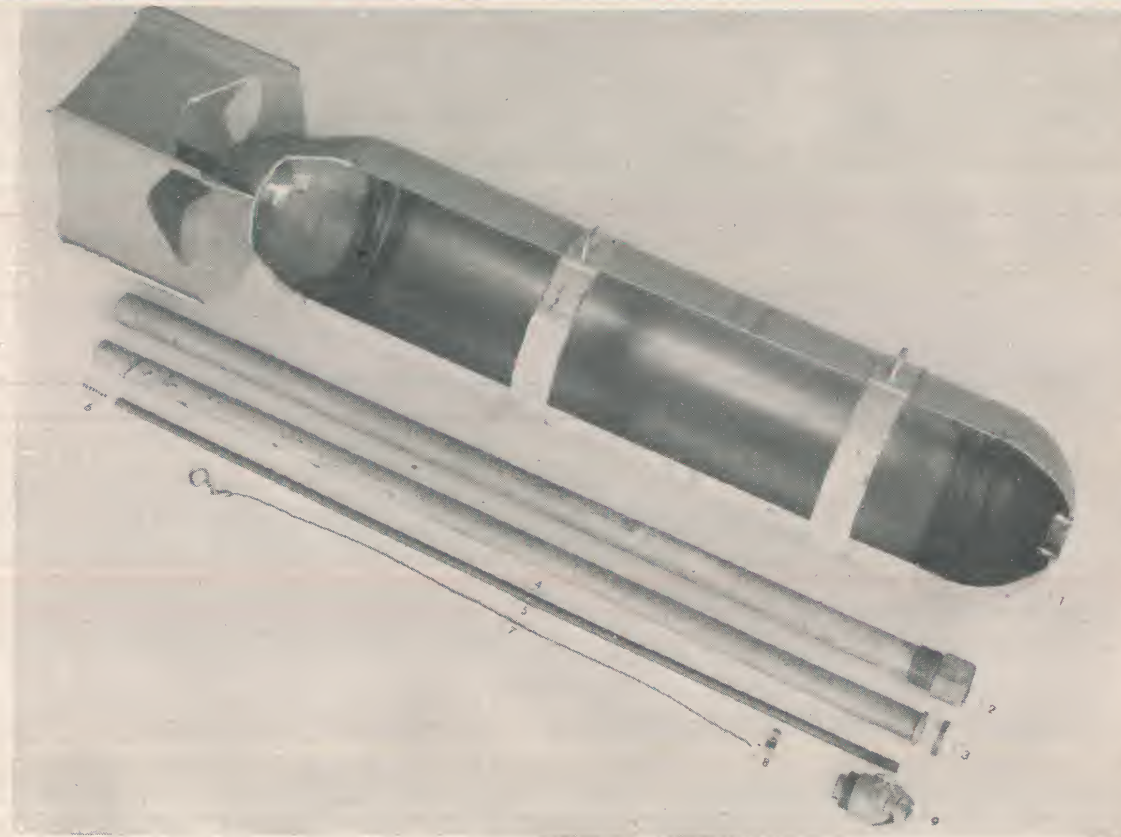

FIGURE 1.—Components of 100-pound Incendiary Bomb AN-M47A2 (all purpose).
1. Bomb, Incendiary, 100-pound AN-M47A2 Incendiary Oil-filled NP (or IM) (figure 1 piece 1)—with burster well (figure 1 piece 2) installed and burster well cavity plugged with a cork.
2. Igniter,\* 100-pound, Incendiary Bomb AN-M9 (WP filled) or Igniter, 100-pound, Incendiary Bomb E2 Sodium-Filled (figure 1 piece 4) with spring (figure 1 piece 6) installed.
3. Burster,\* 100-pound, Incendiary Bomb AN-M13 (figure 1 piece 5).
4. Ring, Retainer, for 100-pound Incendiary Bomb AN-M47A2. (figure 1 piece 3).
5. Arming Wire Assembly (figure 1 pieces 7 and 8).
6. Fuze, Bomb, Nose, AN-M126A1 (figure 1 piece 9).
The Incendiary Bomb Body AN-M47A2 is 46 inches long and 8 inches in diameter (see figure 1). The body is made of  $\frac{1}{16}$ " lap-welded steel and is threaded at the nose to take an axial burster well which extends to the tail of the bomb body. A sheet steel box-type tail assembly is welded to the bomb body. With the burster well installed, the bomb empty weighs approximately twenty-six (26) pounds. Two suspension bands of sheet steel, each equipped with a suspension lug, circumscribe the bomb body. When filled and assembled with fuze, burster AN-M13 and Igniter AN-M9 ready for dropping, the bomb weighs approximately 70 pounds.
(b) Screw the retainer ring (figure 1, piece 3) into the fuze adapter to insure a tight fit of the igniter.
(c) Place the small spring (figure 1, piece 6) at the bottom of the inside of the igniter tube.